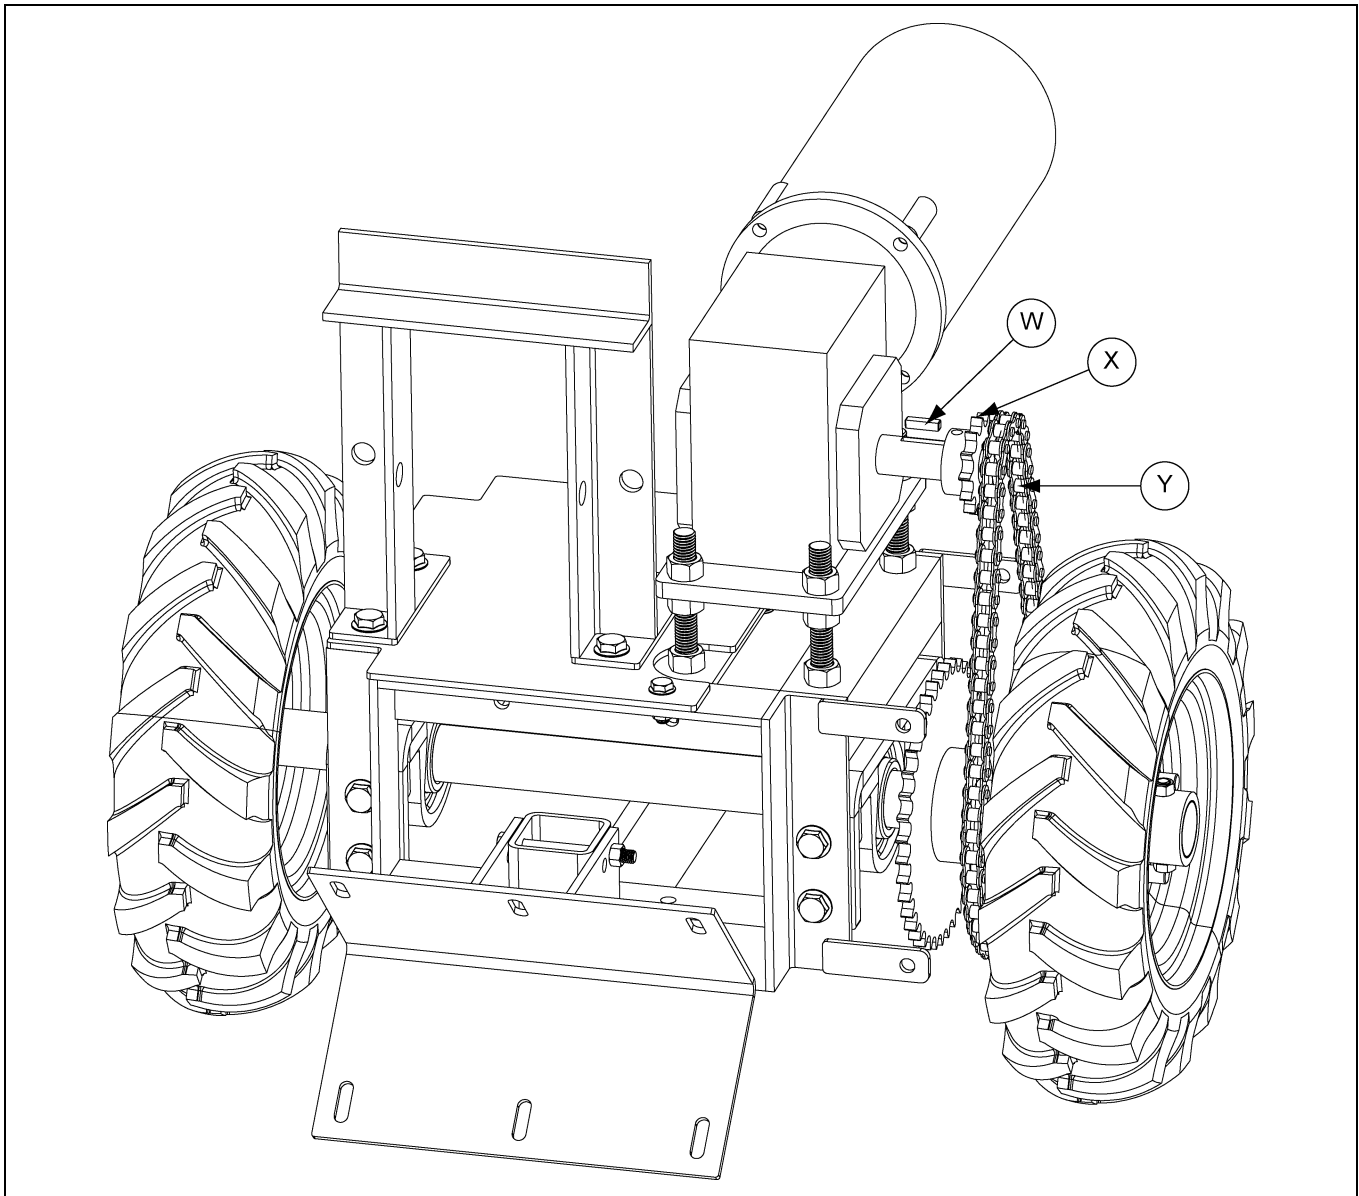

Figure 4I
16. Assemble the 13 tooth sprocket (X) to the motor shaft using a 1/4" square x 1" key (W).
19. Tension the roller chain (Y) as required by adjusting the nuts on the 5/8"-11 x 6" threaded rods. (See Figure 4I.)